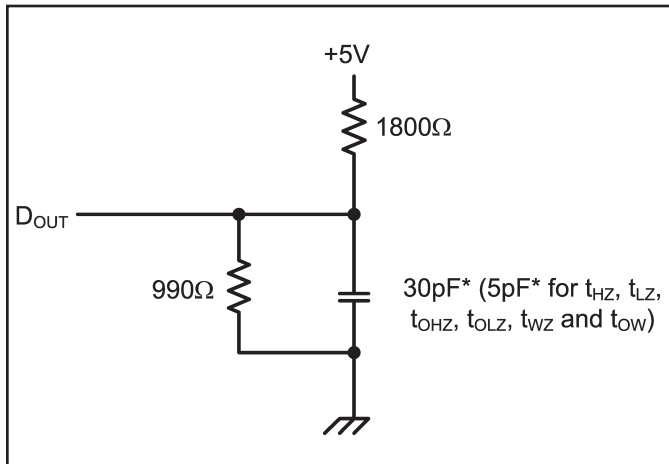

Figure 1. Output Load
- 8. Transition is measured at ± 200 mV from steady state voltage prior to change, with loading as specified in Figure 1. This parameter is sampled and not 100% tested.
| Output Load | See Figures 1 and 2 |